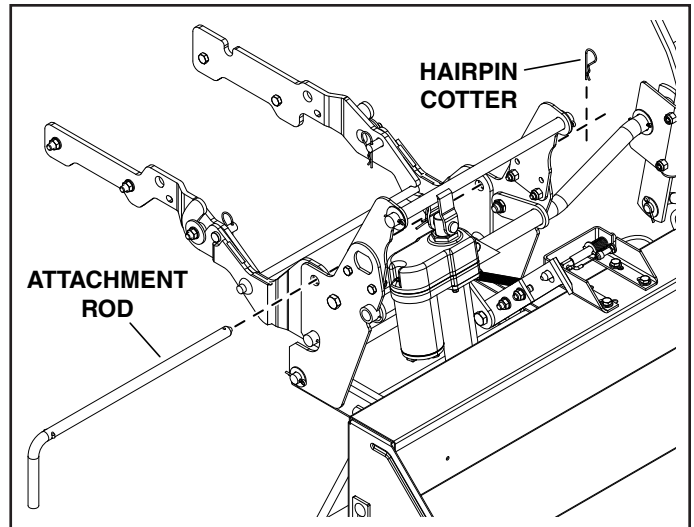

Figure 26.
2. See figure 26. Secure the top of the adapter assembly to the top of the mounting brackets by sliding the attachment rod through the holes and securing it in place with a hairpin cotter.
5. See figure 26. Remove the hairpin cotter from the attachment rod and then remove the attachment rod from the adapter assembly and mounting brackets.